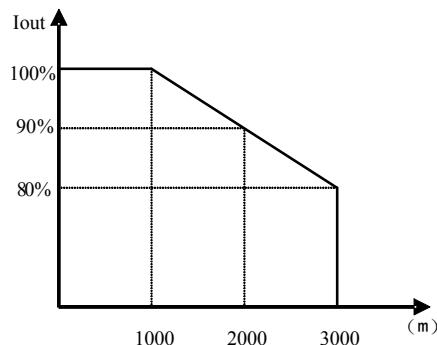

Fig 1-1 Derating drive's output current with altitude
- ◊ Derating must be considered when the drive is installed at high altitude, greater than 1000m. This is because the cooling effect of drive is deteriorated due to the thin air, as shown in Fig1-1 that indicates the relationship between the elevation and rated current of the drive.